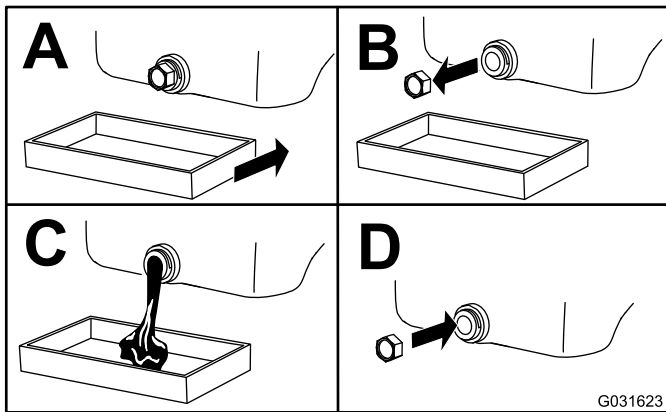

Figure 37
3. Change the oil (Figure 37).